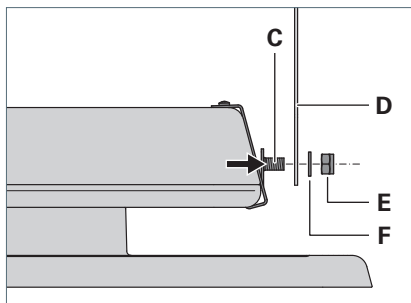

Fig. 9: Hanging the luminaire into the holder.
- ▶ Hold the luminaire between the holder **D** and insert the right set screw **C** from the inside into the bore of the holder, see Fig. 9.